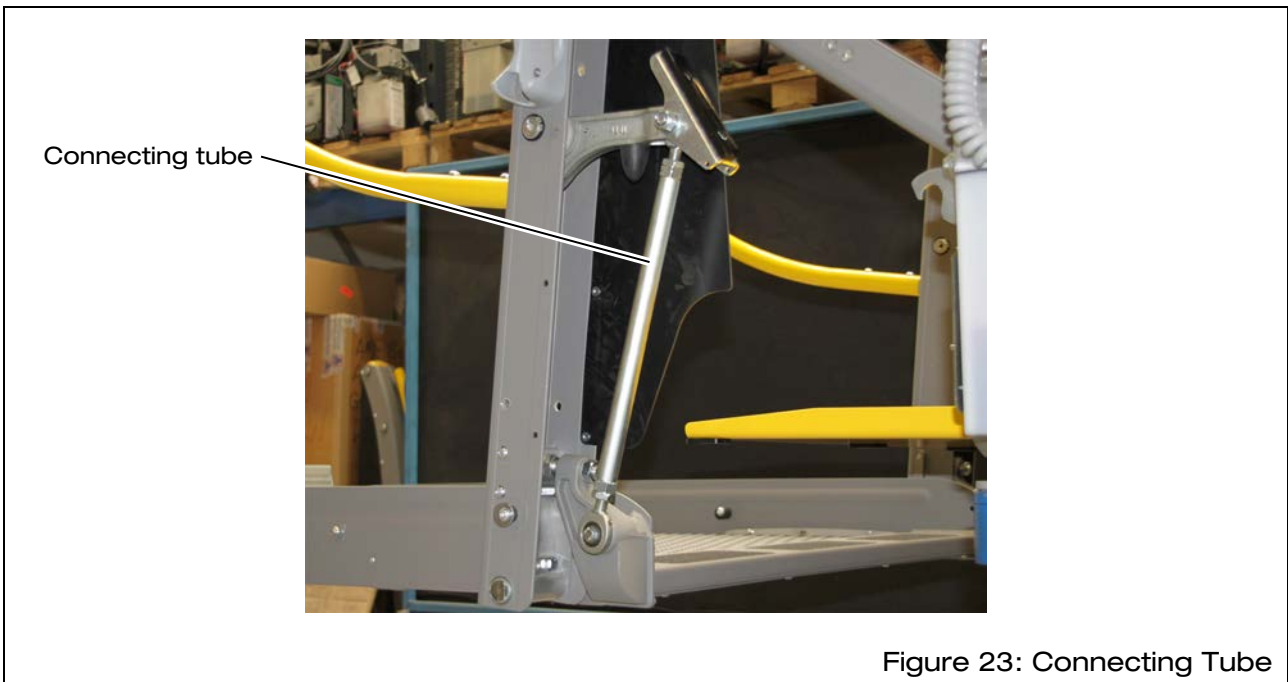
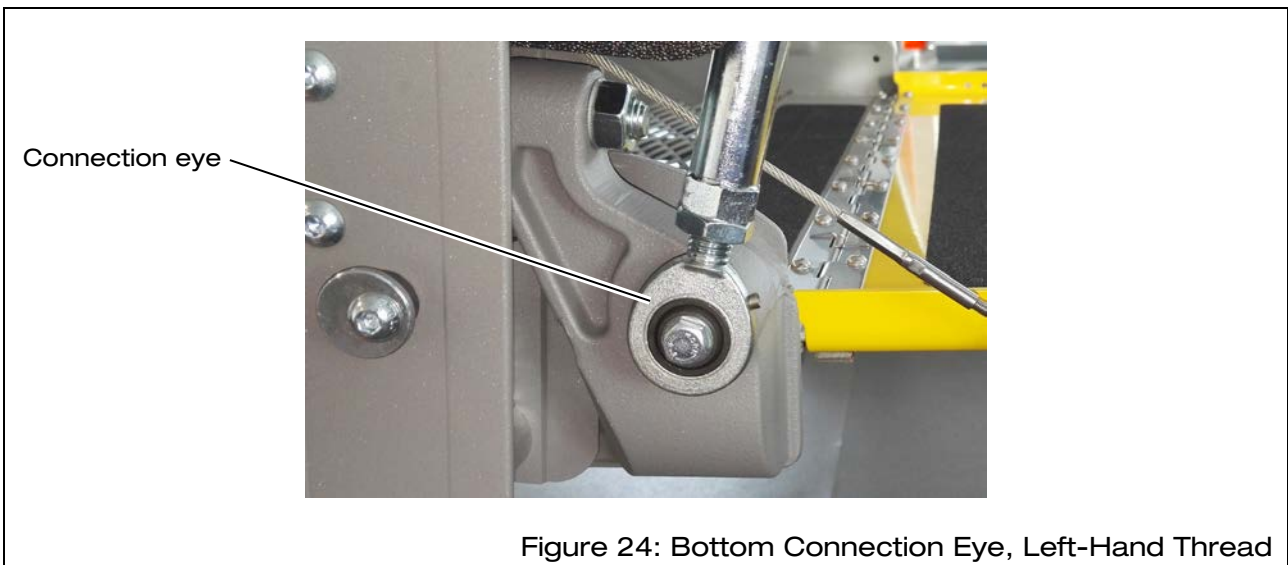

Figure 23: Connecting Tube
Figure 24: Bottom Connection Eye, Left-Hand Thread
The exact position of the platform in the vertical, stowed position is regulated by the length of the connecting tubes (see Figure 23, page 50).
- ⇒ Loosen the locking nuts on the top and bottom connection eyes of the connecting tubes (see Figure 23 and Figure 24, page 50).